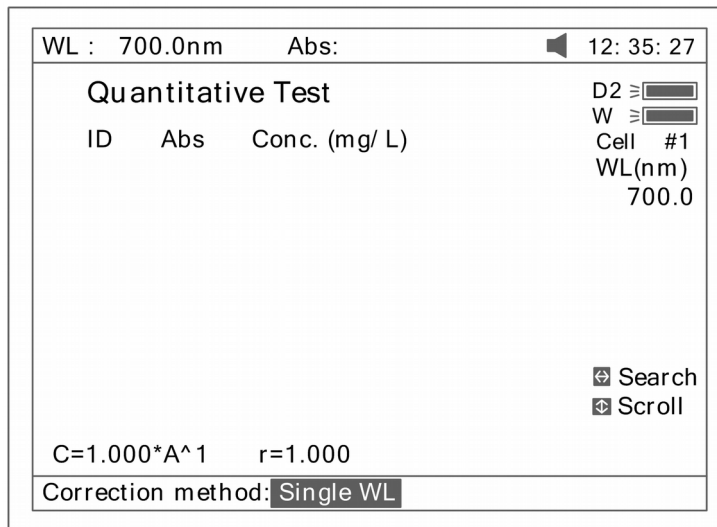

Fig 28
2. Press **(SETλ)** to select correction methods and enter the wavelength. There are three correction methods (single, Isoabsorbance and 3 point, Fig 28)